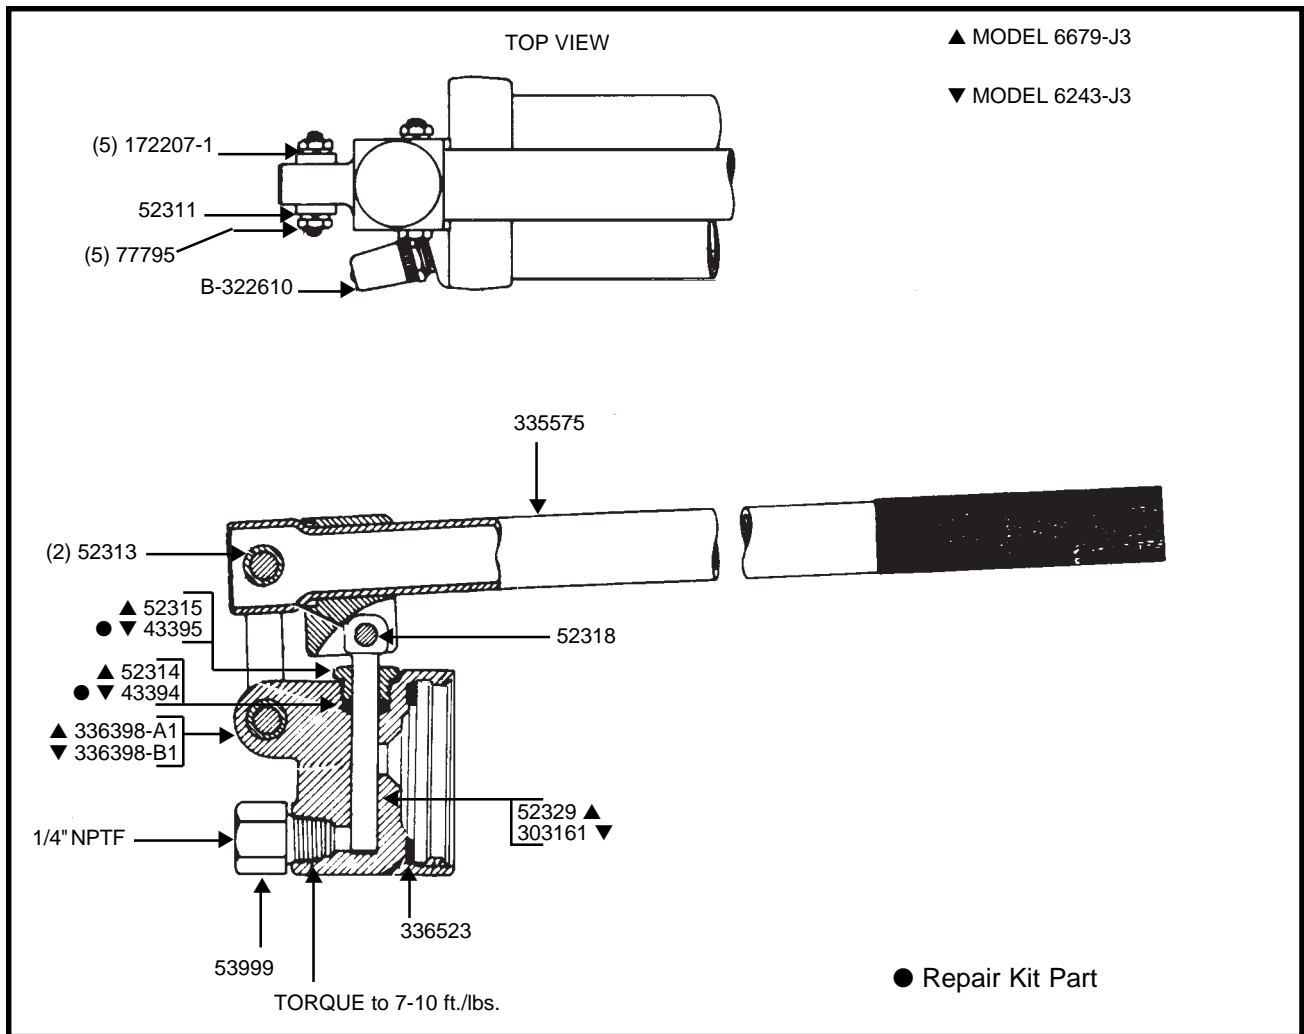

Figure 6: Head Assembly for Models 6243-J3 and 6679-J3 Guns
1. Wipe loader fitting B-322610 (Figure 6) clean of any material.
4. Operate loader pump to fill cylinder until second groove on follower rod is exposed (Figure 6).
A. Packing nut 52315 or 43395 should be checked occasionally for snug fit to prevent leakage. If leakage at packing nut persists after nut has been fully tightened, check piston 52329 or 303161 for damage and/or replace packings 52314 or 43394 (Figure 6).